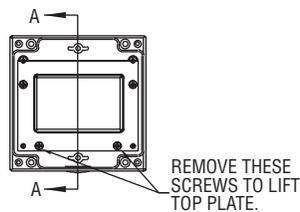

Figure 1
- Step 3) Unscrew the two screws on the bottom of the panel meter mounting bracket only (as seen in Figure 1).